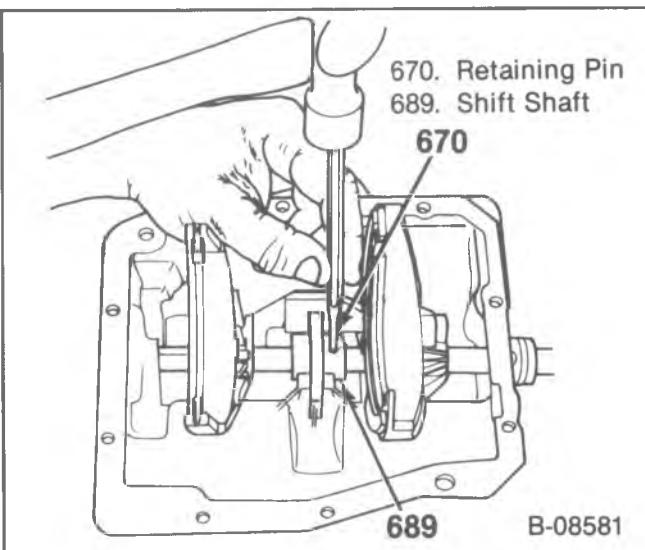
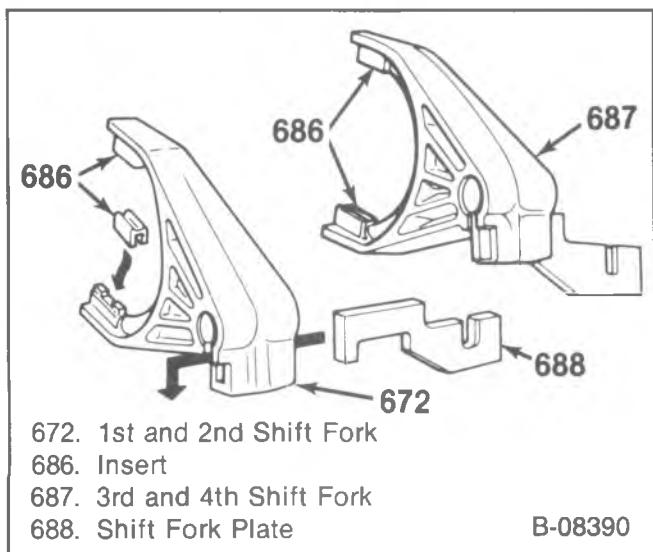

Figure 140—Removing the Shift Shaft Retaining Pin
Figure 139—Shift Forks and Selector Plates
- 1. Turn the shift shaft (685) until the selector arm (689) is disengaged from the fork plates (688).
- 2. Drive the retaining pin out of the selector arm (689), (figure 139).
- 3. Remove the shift shaft (685).
1. Install a new shift shaft plug (673), if needed.
2. Fit the inserts (686) and the fork plates (688) into the shift forks, (figure 139).
3. 1st and 2nd (largest) shift fork (672).
- Hold the shift fork in the cover with the fork offset to the rear, (figure 140).
4. Selector arm (689) and the interlock plate (671).
- The shift arm retaining pin hole must be away from the cover and to the rear, (figure 140).
5. 3rd and 4th shift fork (687).
- Hold the shift fork in the cover with fork offset to the rear, (figure 140).